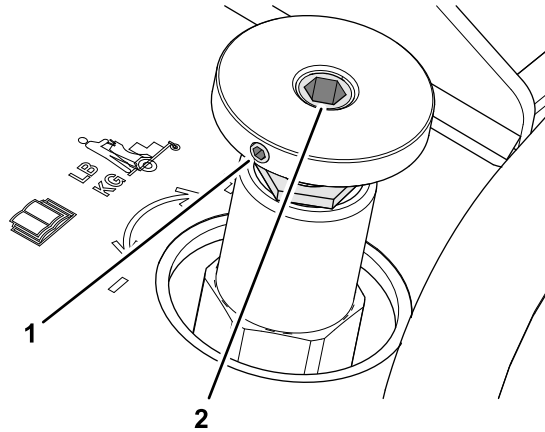

Figure 60
1. Loosen the setscrew in the knob for the weight control valve; refer to Figure 60 in Adjusting the Operator Weight Control Valve (page 47).
Note: Do not twist the knob while removing it. If you need help maintaining the position of the control-valve shaft, use a hex key in the hex socket of the shaft to hold the align; refer to Figure 60 in Adjusting the Operator Weight Control Valve (page 47).